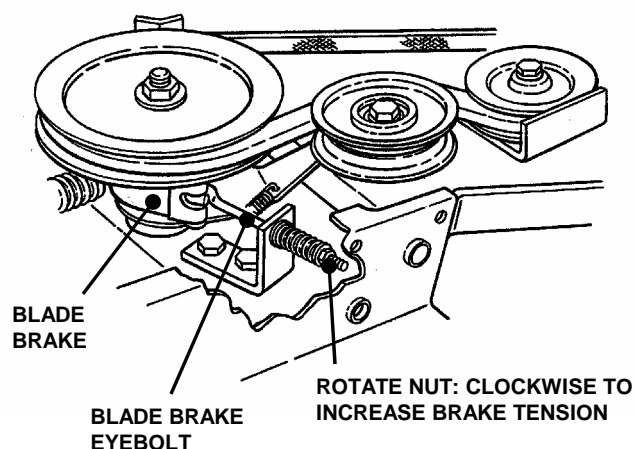

FIGURE 4.13
2. Rotate blade brake eye bolt nut one full turn CLOCKWISE to increase brake tension. See Figure 4.13.